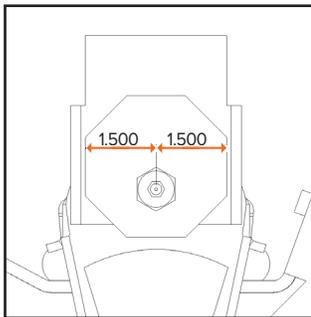
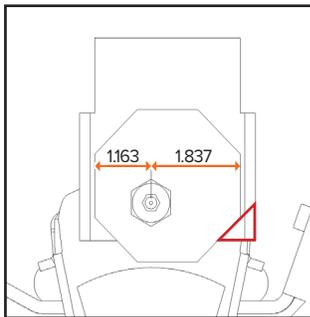

Figure 1 - Center Setting
Figure 2 - Intermediate Setting*
NOTE: If the trailer is equipped with a Correct Track system, the **CRE3000** can only be installed using the center or intermediate positions of the dial (see Figures 1 and 2). When using the intermediate setting of the Correct Track dial, trim the corner of the hanger opposite the offset of the shoulder bolt on both the inside and outside of the hanger (the red area outlined in Figure 2). This must be done on the curbside as well as the roadside of the trailer.
*Both the intermediate and extreme settings can occur on either side of center. In Figures 2 and 3, the settings are shown as offset to the left, but they can occur as offset to the right, as well.